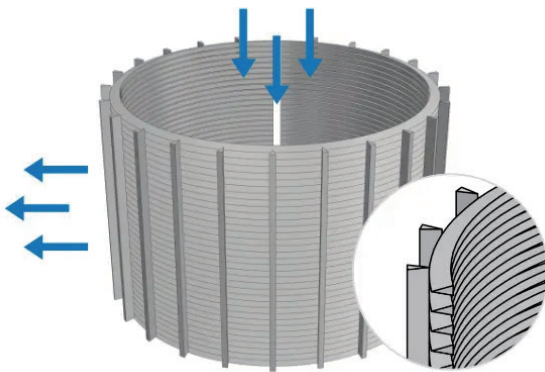

Figure 2 Radial Internal – FITO
- Radial internal wedge wire types are rolled from flat wedge wire screen panels not continuously spirally wrapped around axial support profiles, that means there are many welding joining points and only flow in one direction (FITO), shown as figure 2.